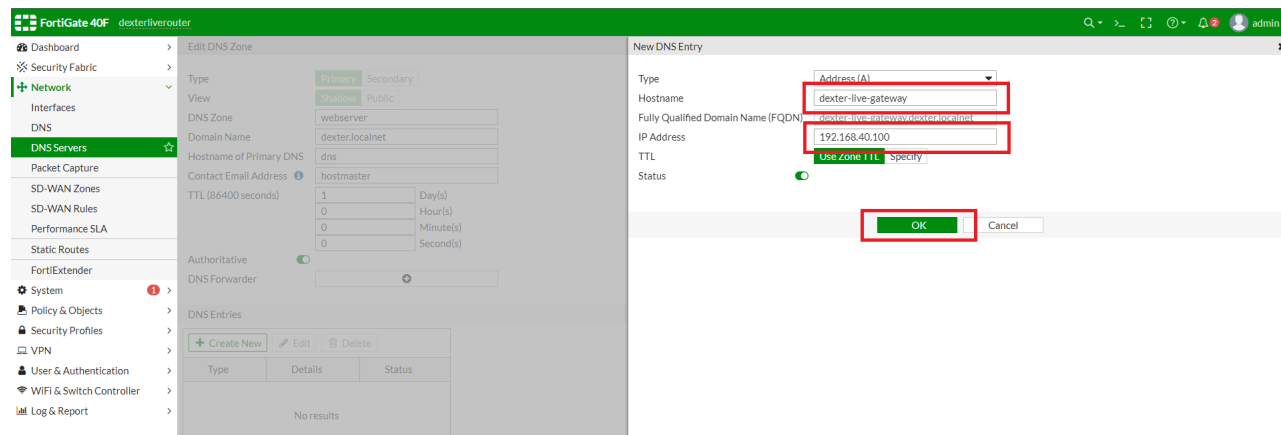

Figure 16
9. Configure the DNS Entry by entering **dexter-live-gateway** in the "Hostname" field. Enter **192.168.40.100** in the "IP Address" field. Select "OK". (Figure 16)